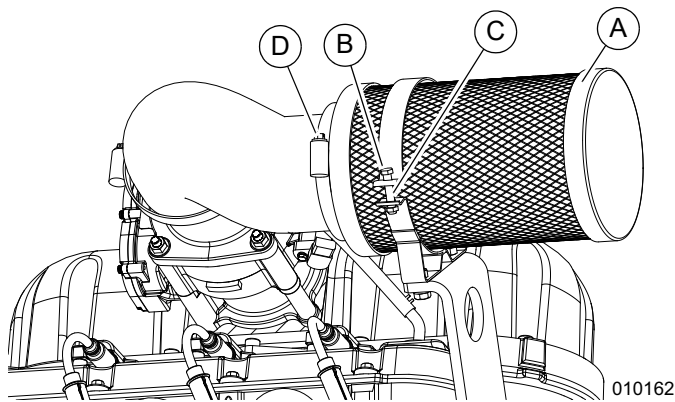

Figure 5-12. Air Cleaner Cover and Filter Element
1. See Figure 5-12. Remove nut (B) and bolt (C) from air filter clamp, and loosen elbow clamp (D) to release air cleaner.